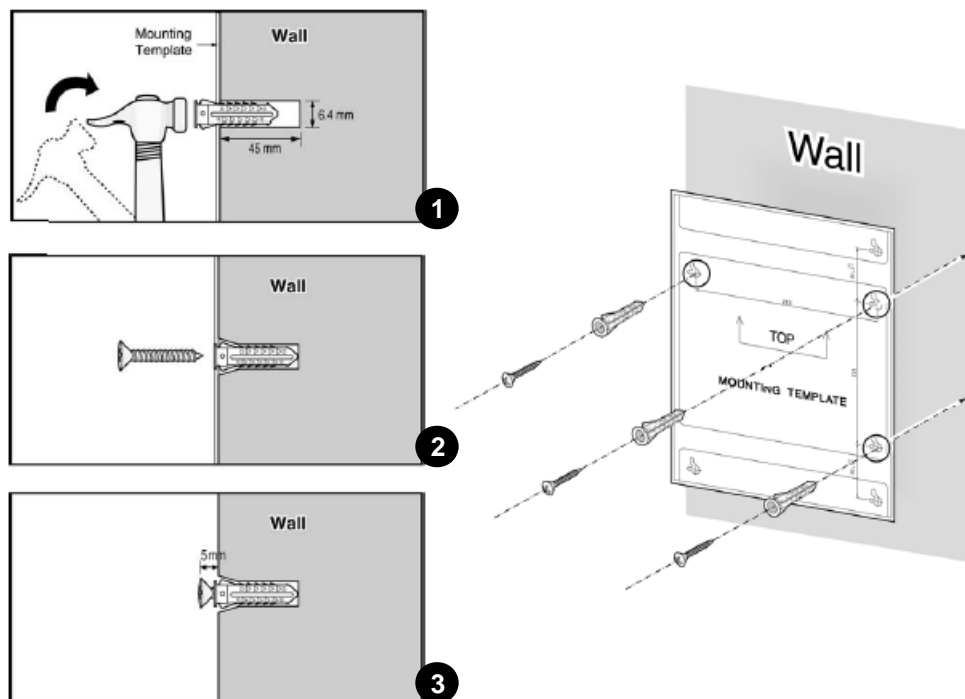

Figure 3-5 Mounting Template
1. Install three (3) anchor plugs into the wall using the mounting template included for accurate placement, as shown in #1-#3 of Figure 3-5.
2. Attach the mounting template with the three (3) screws (included) to the three (3) anchor plugs #4 of Figure 3-5.